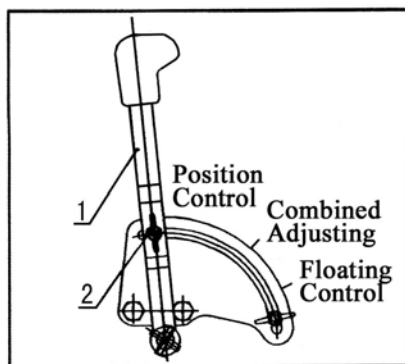

Fig.12 Control Way of Hydraulic System
b. Use of Control Handle of Lifter (Fig.12)